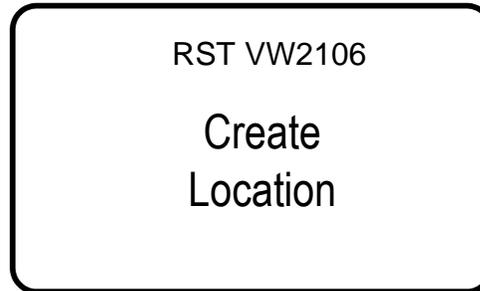

FIGURE 4-3 CREATE LOCATION SCREEN
3. Scroll to the **Create Location** screen (Figure 4-3) using the up/down arrows and press **Enter**.